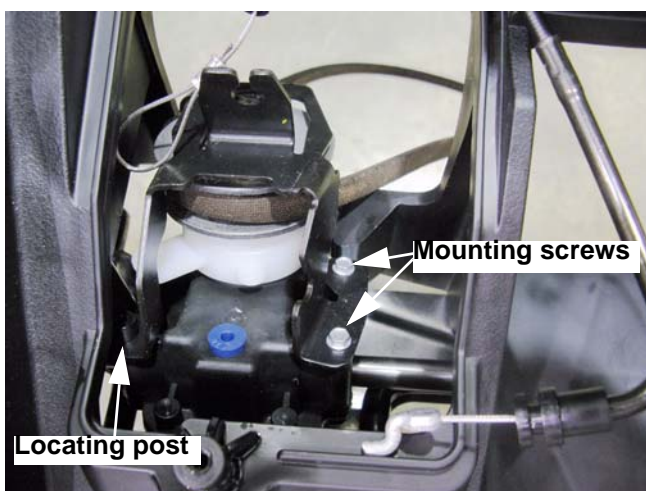

Figure 2.13
14. Remove the two screws that hold the combination belt keeper / cable bracket to the transmission using a 1/4" wrench. See Figure 2.13.